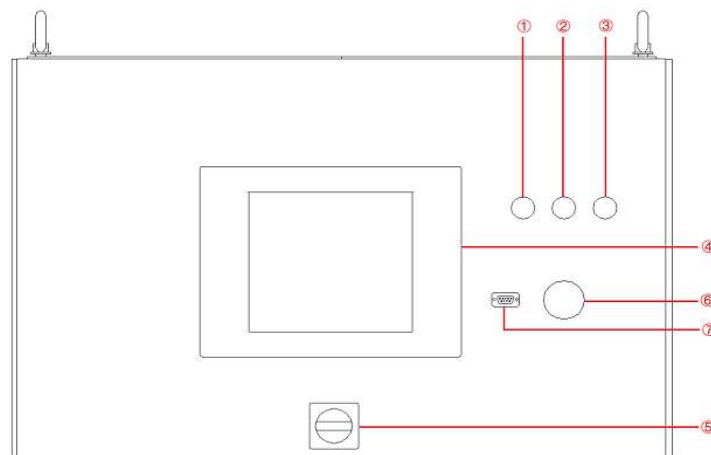

Figure 1-11 Front panel of the power supply
The RS232 interface is located on the front panel of power supply (Figure 1-11 ⑦).